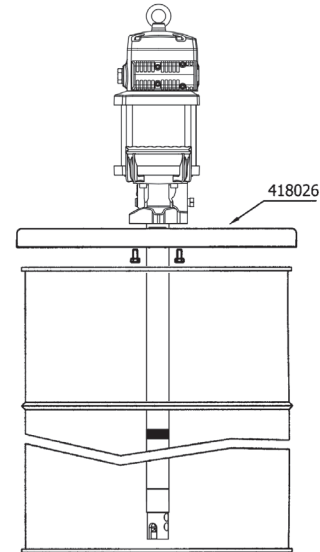

Fig. 2
- Mounting with reinforced cover, 418026 for 408 lb (185 kg) drum and 418025 for 110 lb (50 kg) drum. Insert the pump through the cover and fasten it with the enclosed screws. Insert the pump through the bung opening and fasten the cover onto the drum firmly (see figure 2).